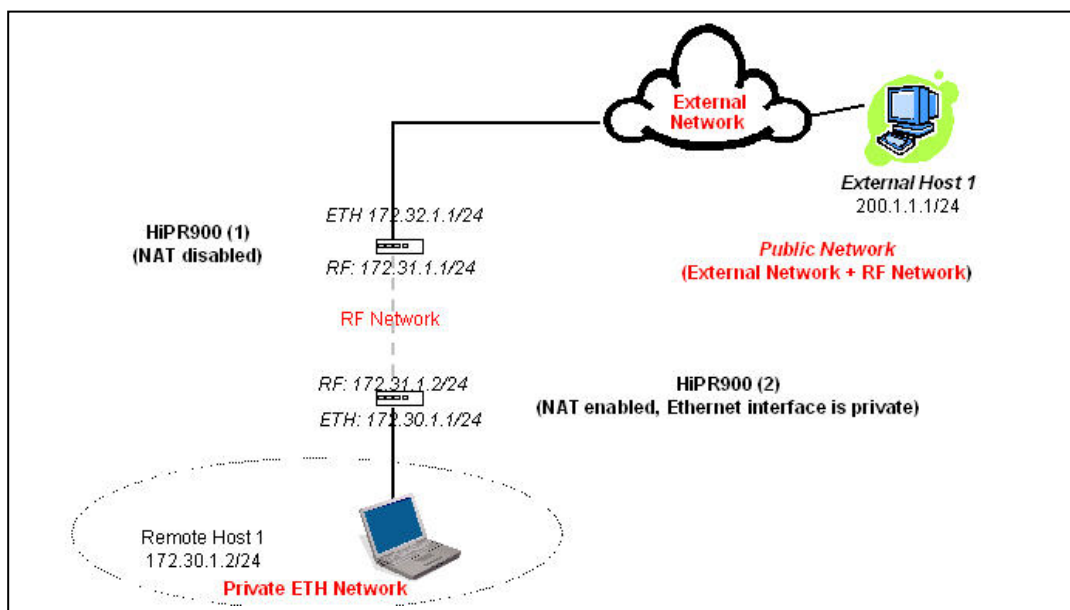

Figure 45 - NAT Enabled on Ethernet Interface
An IP packet whose source IP address originates from the Ethernet network and is sent towards the RF network, will have its source IP address replaced by the RF IP address of the HiPR-900 unit. In the example below (Figure 45), the Ethernet interface of the HiPR-900 (2) unit is set as private.